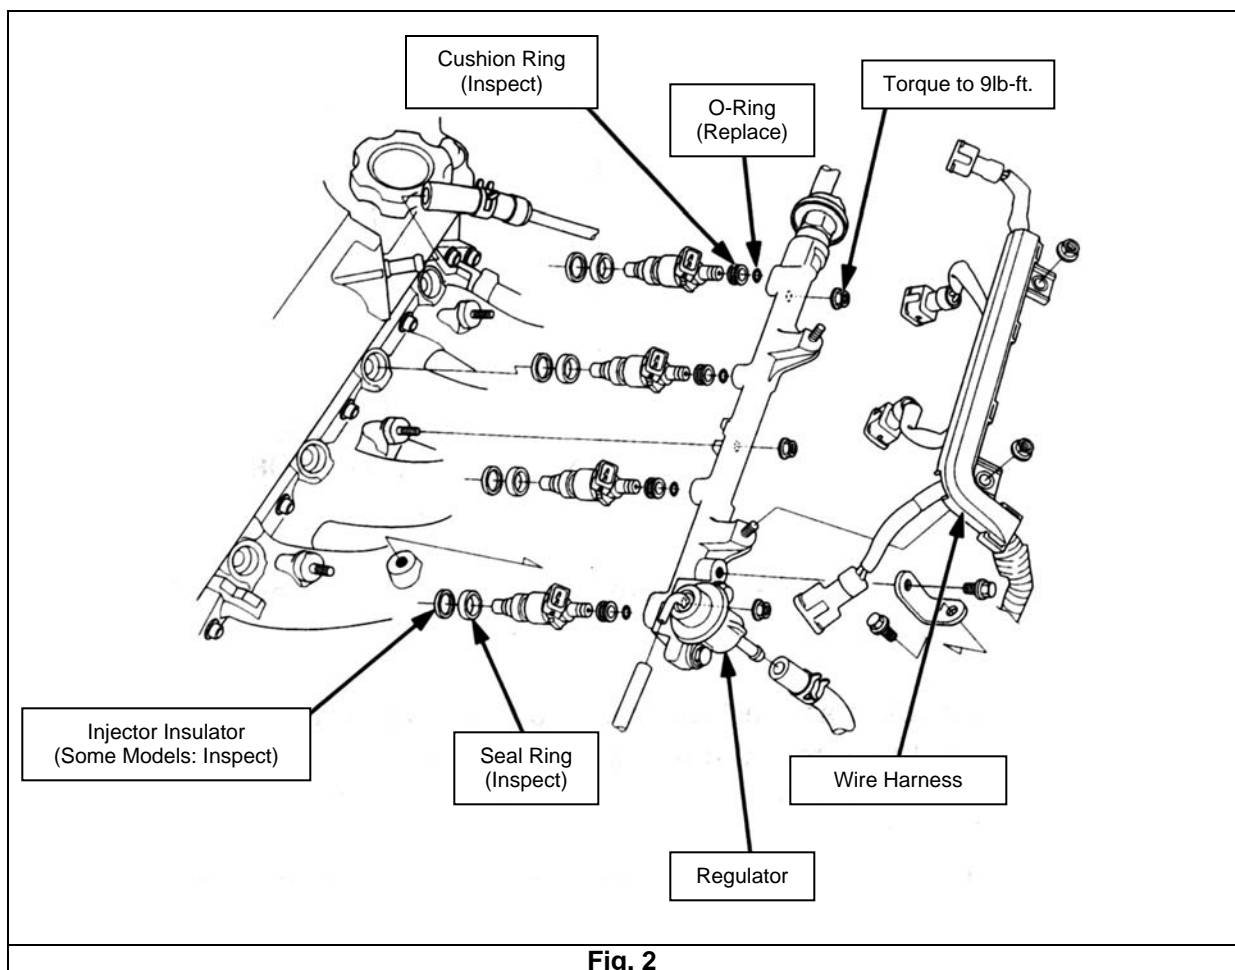

**Fig. 1**
- b) **On models equipped with a 6mm service bolt: (Fig. 1)**